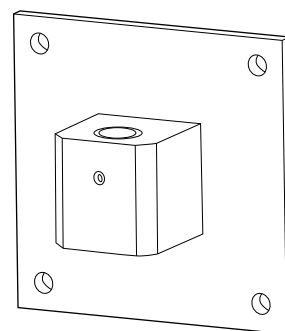

Figure 1
2. **Install vertical mount plate** (see Figure 1).